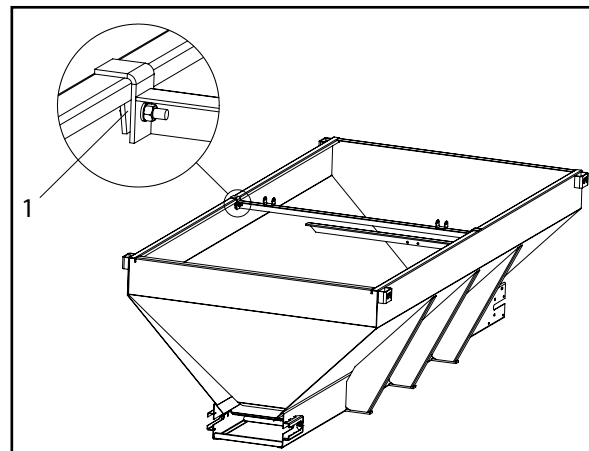

Figure 7
Determine pressure port of pump. Install pressure hose into this port as shown in Figure 7. Connect suction hose to opposite port and to tank outlet on hydraulic tank. Use plastic tie straps as necessary to support hoses so they will not catch on field obstructions or contact hot or moving parts.
Install Pivot on top of side sheets and center from front to back. Install clamps (1) with supplied hardware to hold in place to side sheets as shown in Figure 7. Install screens to pivot using supplied hardware. See "Screens - Flip-Up" parts page for details.